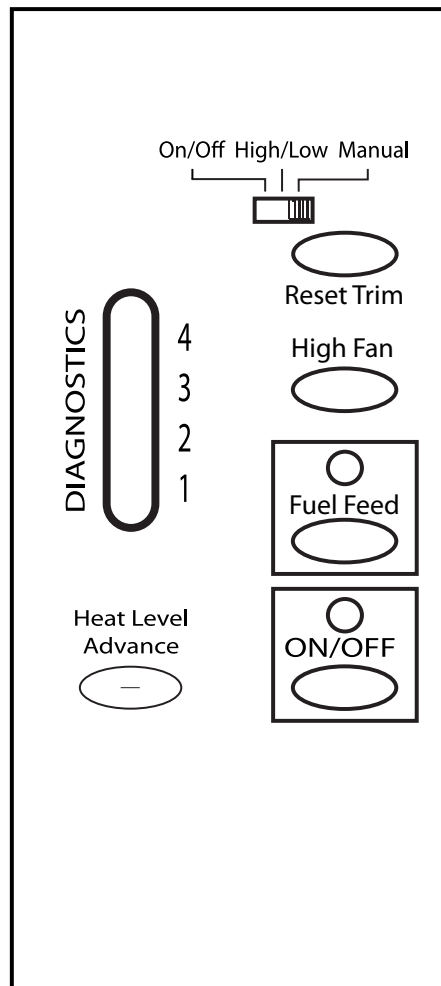

FIGURE 22
PANEL CONTROLS (See Figure 22)
- The green light located above the On/Off button (in the On/Off box) will flash during the ignition start-up period. (See figure 22)
- While the stove’s auger system is feeding pellets the amber light (in the “Fuel Feed” box) will be on. (See figure 22)